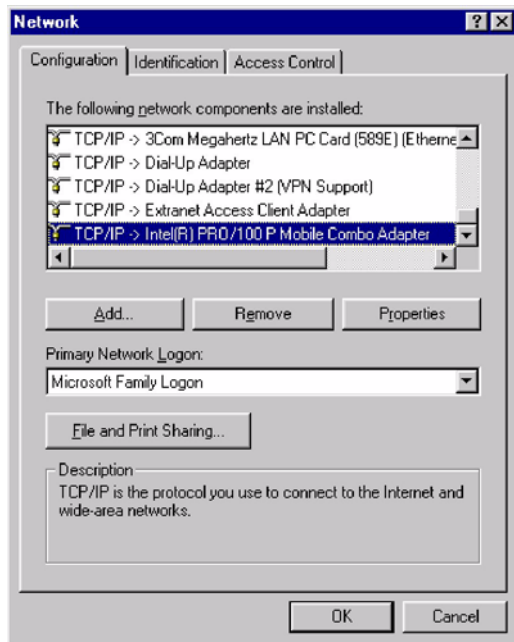

Figure 1 Preparing to Configure Network Controller
3. Under the Configuration tab, select **TCP/IP (etherlink card)** (Figure 1).